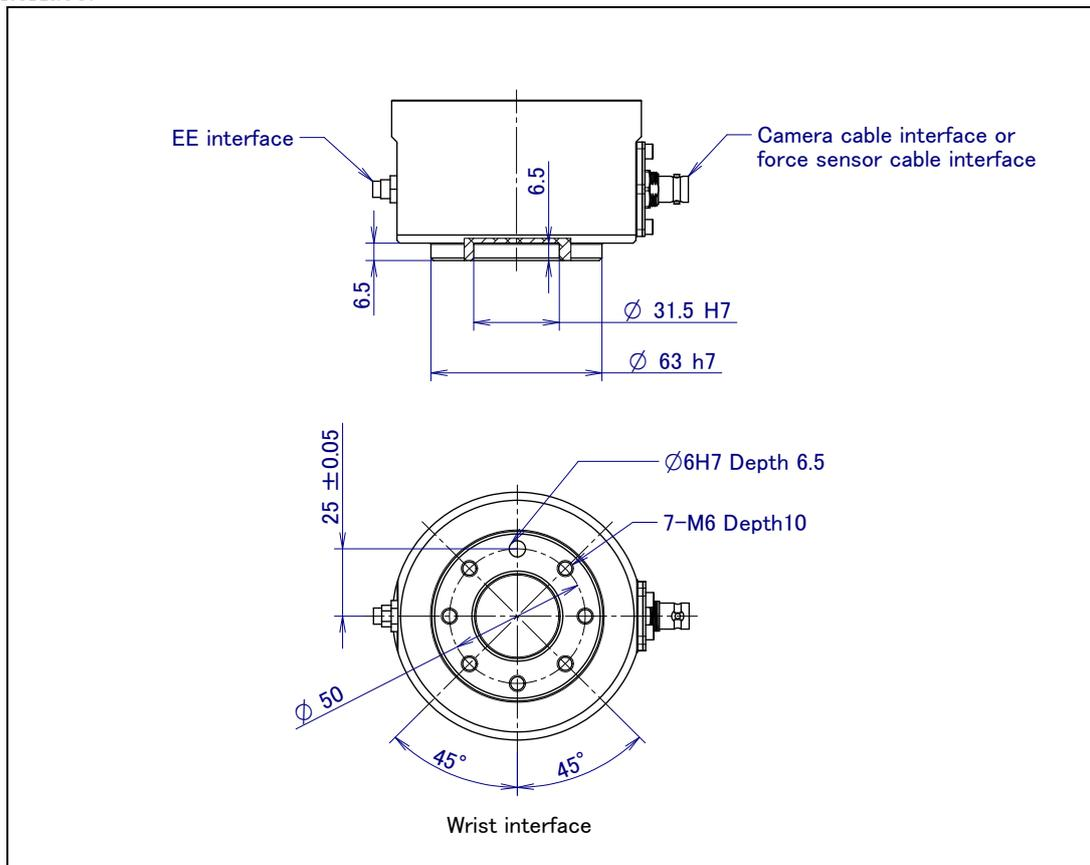

Fig. 9.6.6 (a) CEX wrist flange interface
- The device mount to wrist flange of CRX series robot. Fig. 9.6.6 (a) shows the CRX wrist flange interface.